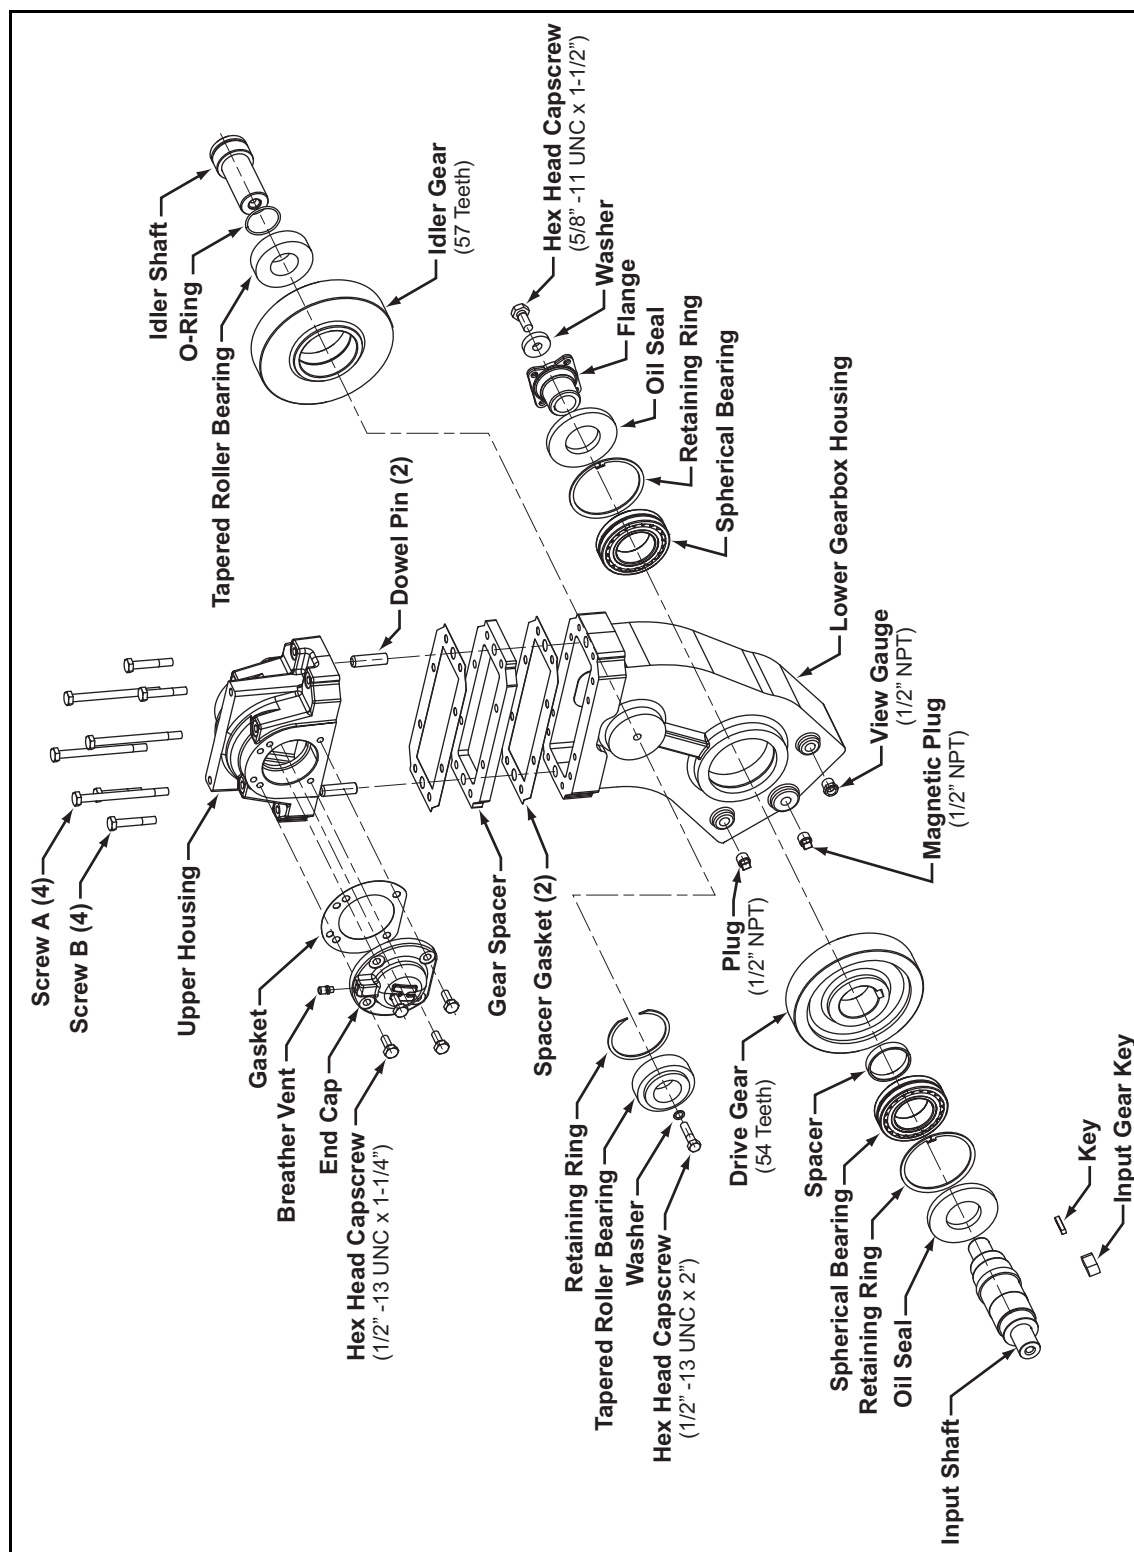

Figure 9-5: Typical J Series Gearbox Assembly
(See Figure 9-5: "Typical J Series Gearbox Assembly" on page 158.)
1. With the gearbox secured in a holding fixture, remove and disassemble the idler shaft assembly. (See Figure 9-5: "Typical J Series Gearbox Assembly" on page 158.)
- ☐ Input gear into gearbox housing in proper orientation. (See Figure 9-5: "Typical J Series Gearbox Assembly" on page 158.)
1. Press new tapered roller bearings into the idler gear. (See Figure 9-5: "Typical J Series Gearbox Assembly" on page 158.)